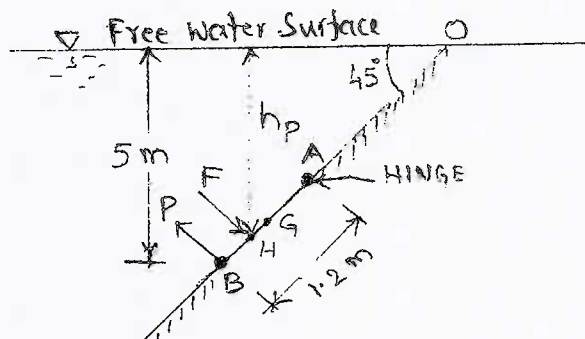

Fig. Q3 (c)
- c. An inclined rectangular sluice gate AB, 1.2 m by 5 m size as shown in Fig. Q3(c) is installed to control the discharge of water. The end A is hinged. Determine the force normal to the gate applied at B to open it. (06 Marks)